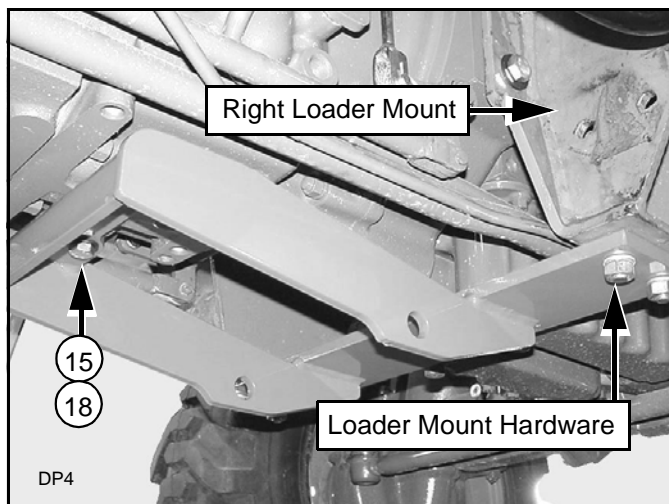

Figure 4 Front Mount Installed
2. Position front mount (4) under tractor and secure to right and left loader mounts using hardware previously removed, (Figure 4).